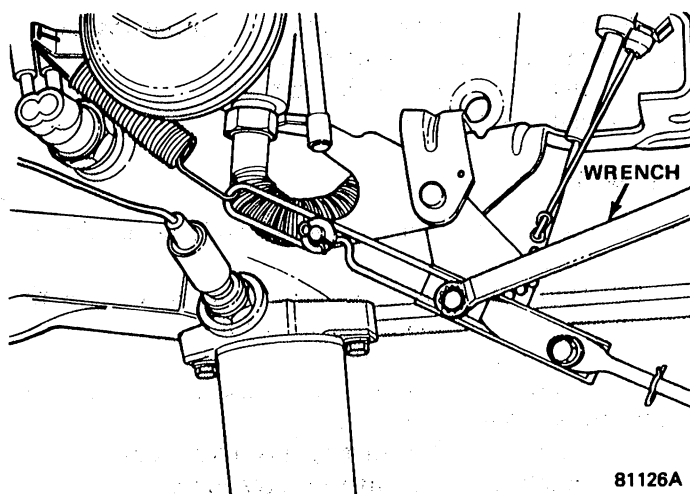

Fig. 2C-28 Throttle Linkage Adjustment—Six-Cylinder Engine
(3) Block choke open and set carburetor throttle off fast idle cam.
(4) Raise vehicle.
(5) Loosen **both** retaining bolts on throttle control adjusting link. **DO NOT REMOVE SPRING CLIP AND NYLON WASHER.**
(6) Use spare throttle return spring to hold transmission throttle lever forward against stop. Hook one end of spring on throttle lever and other end in cast boss on side of torque converter housing (fig. 2C-29).